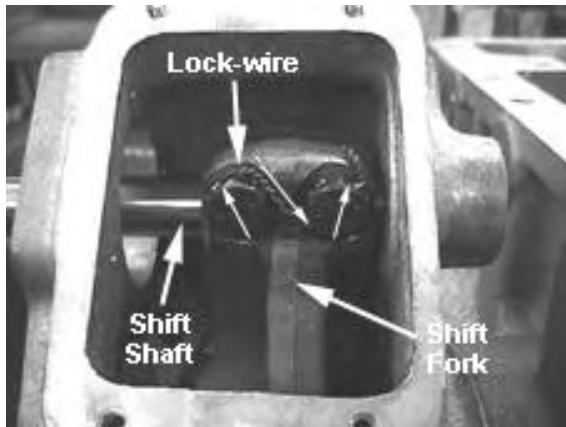

Fig. 77
34. Install the shift shaft into the housing and declutch fork. Align the notches in the shaft with the holes in the fork. Install bolts. Torque to spec. and lock-wire as shown. *See Fig. 77.*